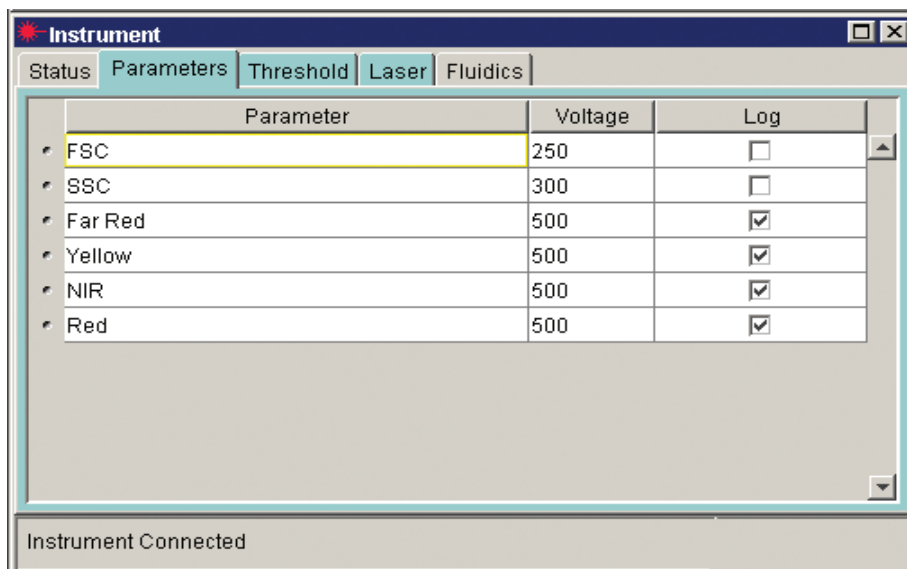

Figure 12
4. Click the Parameters tab in the Instrument frame to display the Parameters pane (Figure 12).